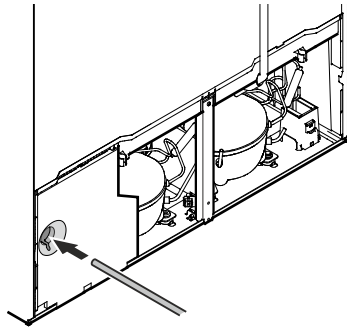

**Figure 13**
- Insert the water strainer supplied into the valve connector (**Figure 13**).